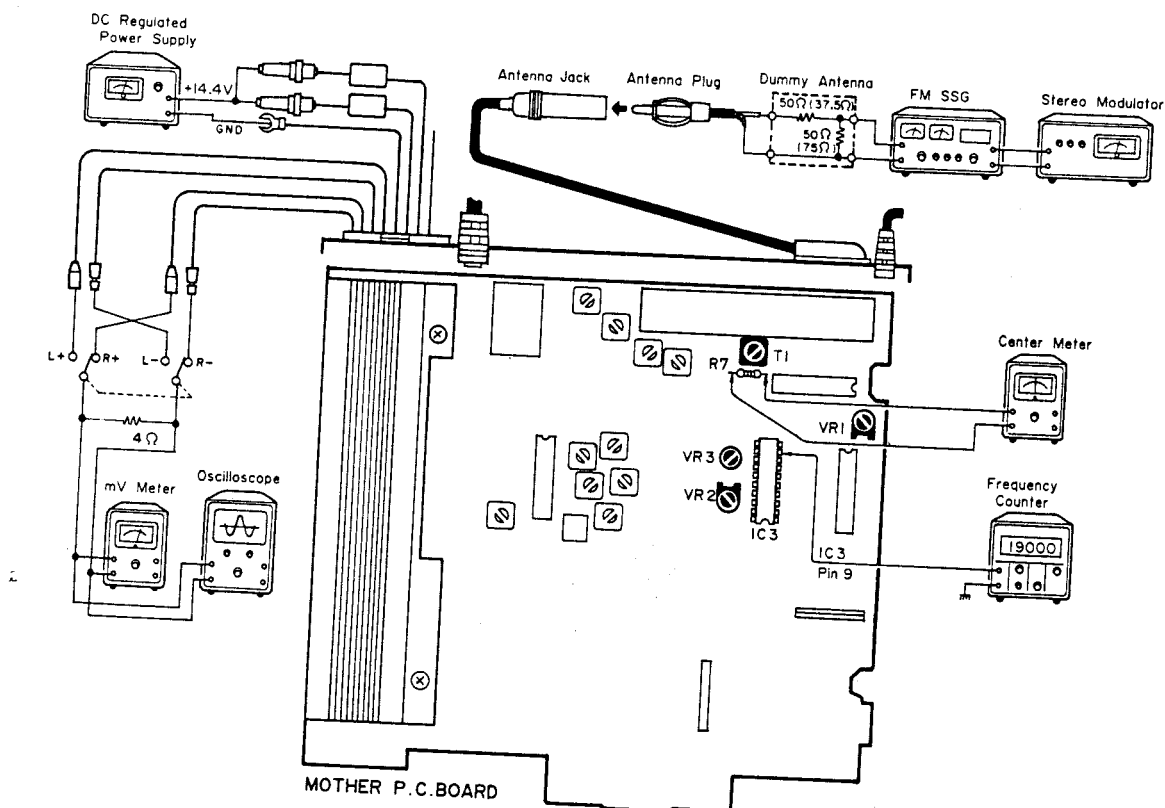

Fig. 22
• Connection Diagram (Show in Fig. 22)